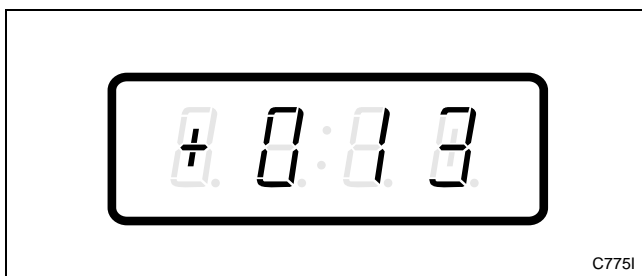

Figure 29
3. Press the DELICATES (+) or the COLD (-) keypad to scroll through the programmable options until “+013” appears in the VFD. Refer to *Figure 29*.